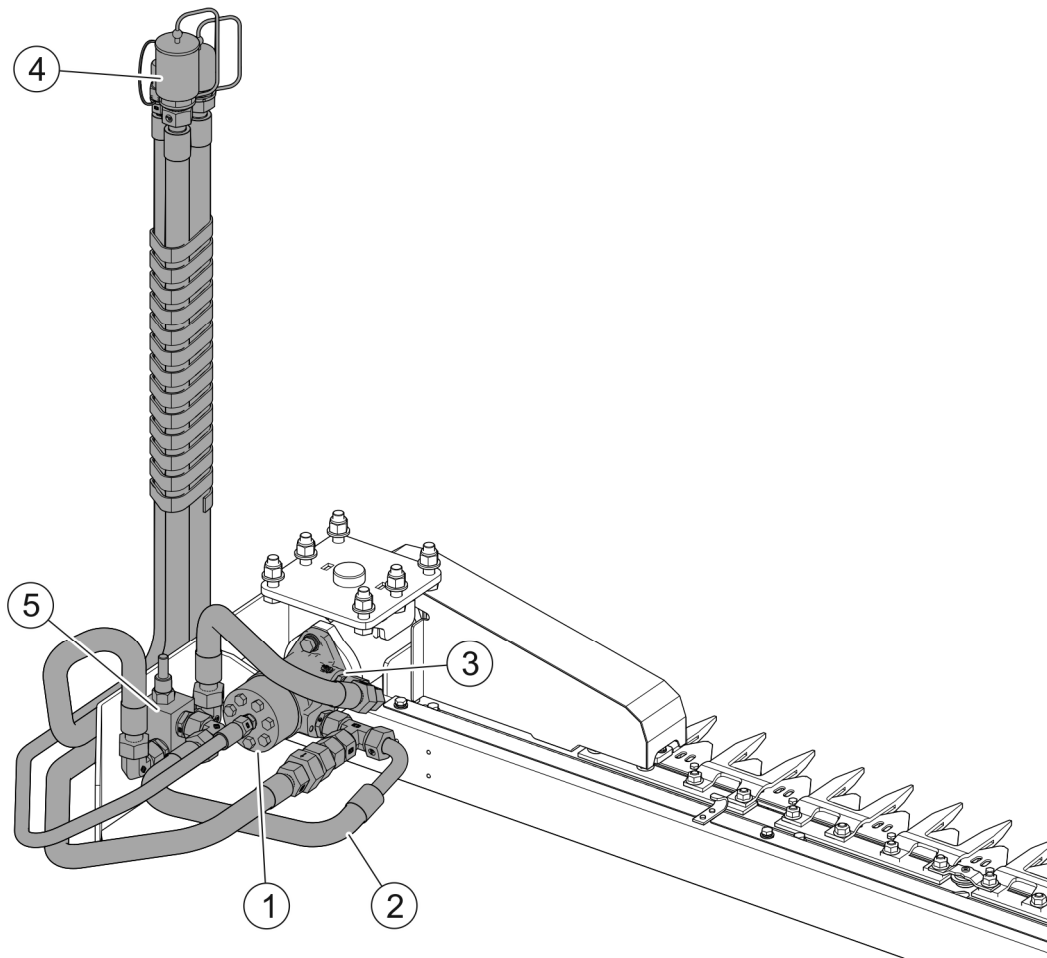

FIGURE 5.4 Checking the connections of the hydraulic lines supplying the hydraulic motor.
Drive system maintenance involves periodic inspection of the condition of hydraulic system conduit connections (2) (FIGURE 5.4) and the technical condition and attachment points of the hydraulic motor (1) and the overflow valve (5).
The hydraulic system must be tight. If oil leak is detected on hydraulic motor body (1) (FIGURE 5.4), ascertain origin of leak. In the event of noticing leaks stop using the machine until faults are remedied.